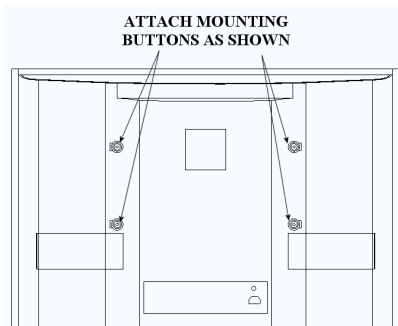
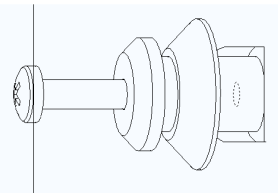

Figure 2
Figure 3
1. Attach mounting buttons to plasma using four M5 x 40mm cap screws provided (see Figure 2 & Figure 3).